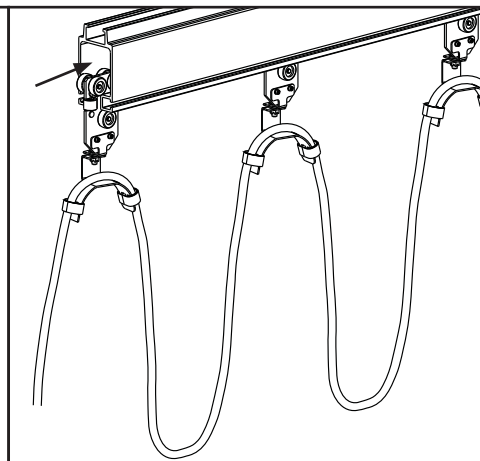

Figure 3-105
- Step 2. Drape cables/hoses on saddles. Adjust the size of the loop and tighten Velcro straps. See Figure 3-105.